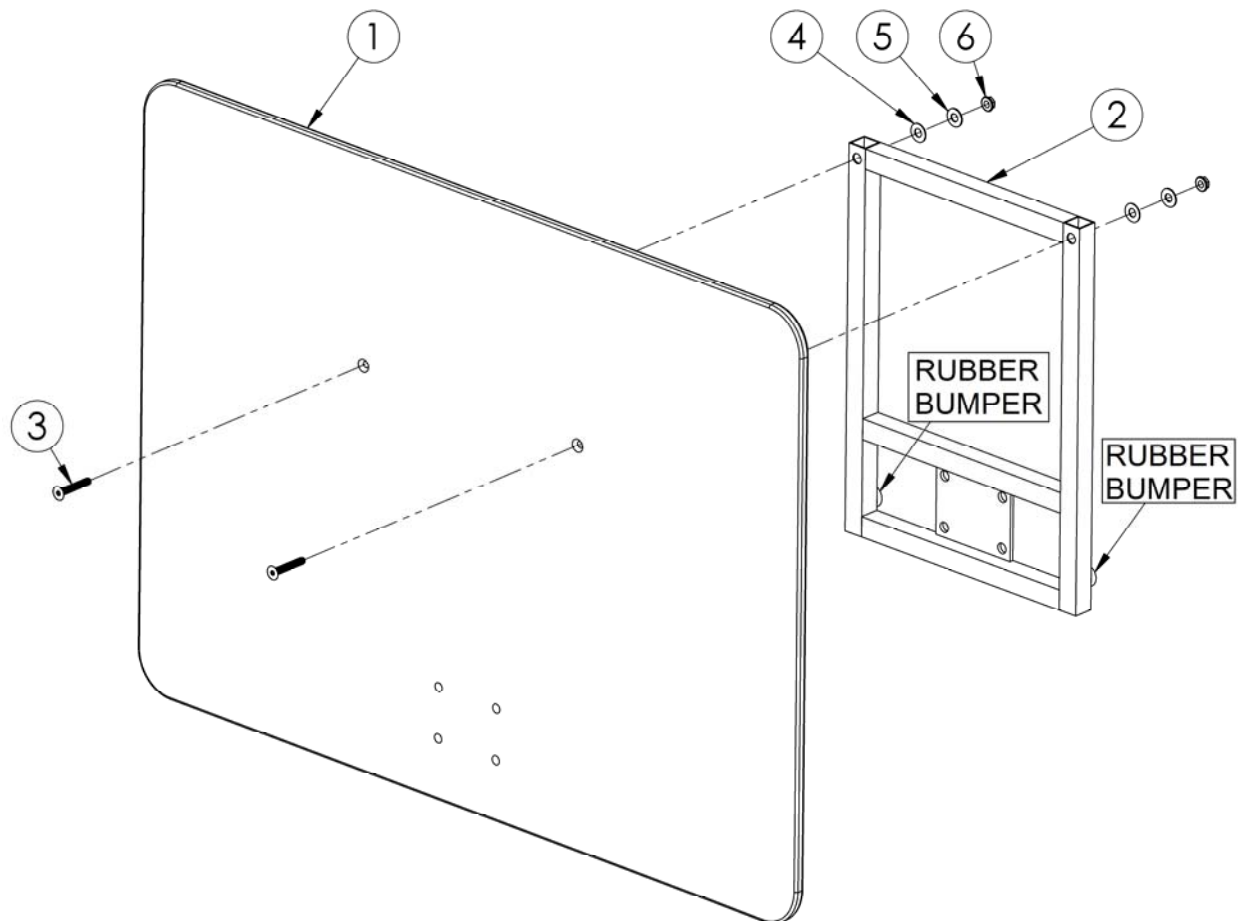

Fig.1
1. Assemble the Acrylic Backboard (1) to the Square Frame (2) with the 5/16"-18 X 2" Flat Socket Head Cap Screw SS (3), 3/8 Nylon Washer (4), 3/8" Flat Washer SS (5), and 5/16"-18 Flanged Nut SS (6), as shown in **FIGURE 1**. **DO NOT SET THE BACKBOARD ON CONCRETE OR OTHER ROUGH SURFACES.** Cardboard from the packaging is a good surface to work on. Do not fully tighten any of the hardware until all parts are assembled.